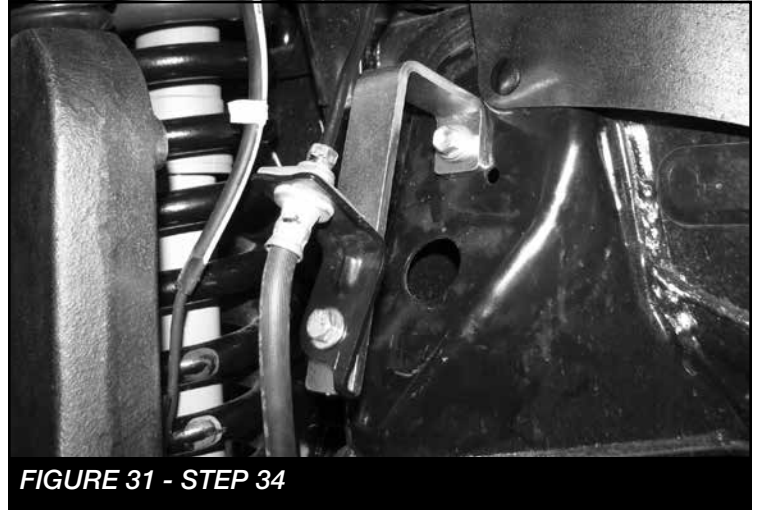

FIGURE 31 - STEP 34
34. Locate the factory brake line tab next to upper control arm. Unbolt the bracket from the frame save hardware and bracket. You will need to carefully pull the hard brake line down 4". Locate FT70061 brake line drop bracket and attach the bracket to the frame with the factory hardware in the upside down J formation. Attach factory bracket to the new bracket using the supplied 5/16" x 1" bolt, nut, and washers. **SEE FIGURE 31**